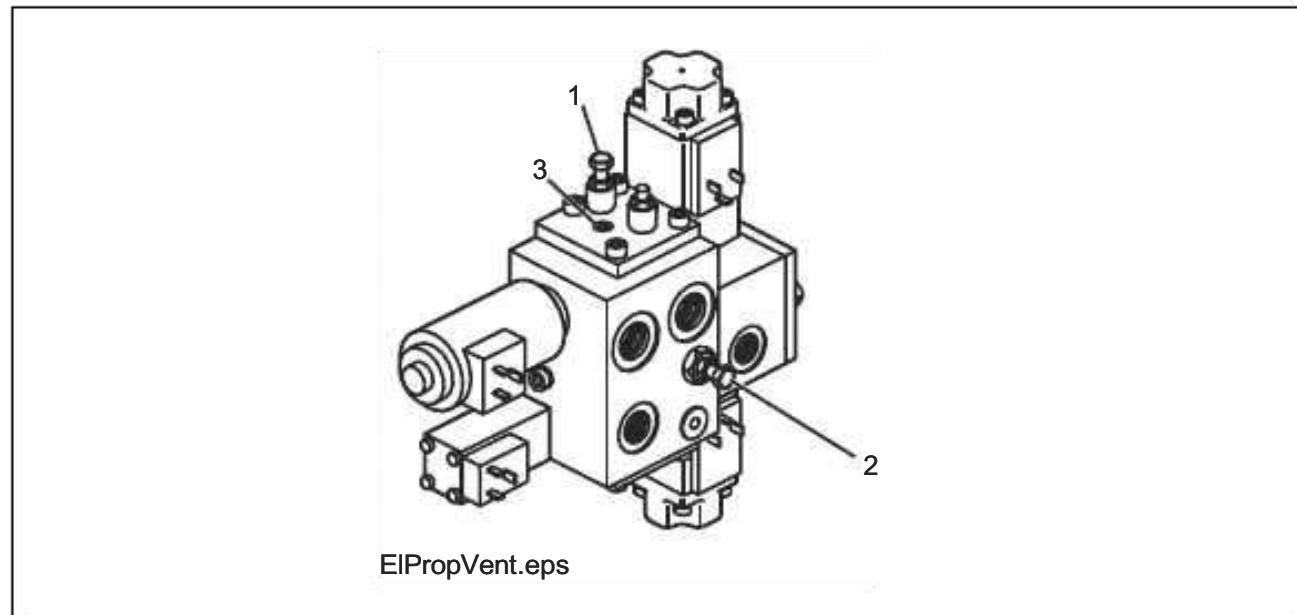

**Figure 8.12** Electrically operated proportional valve
If the correct lowering speed has not been obtained (see "Checking the lowering speed" on page 8.28) adjust the lowering speed valve mounted on the hydraulic valve, see pos. 1 figure 8.12, until the correct lowering speed is obtained.
2. Unscrew the adjusting screw, pos. 2 see figure 8.12, two turns to the left.